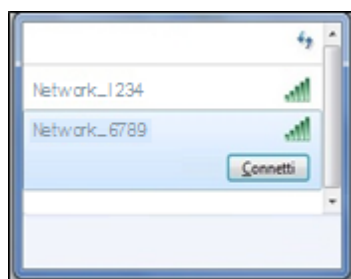

Fig.45
- connect to the Wi-Fi network generated by the oven (Fig.45).